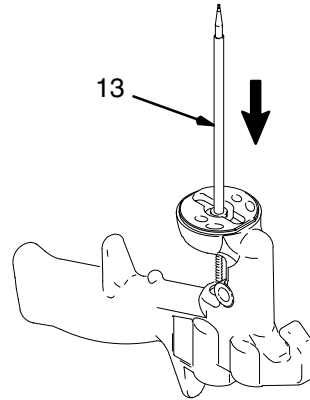

Fig. 29
21. Remove the u-cup (16) from the gun body. The threaded end of the needle (13) can be used to push out the u-cup. Be careful not to damage needle or sealing surface. See Fig. 29.